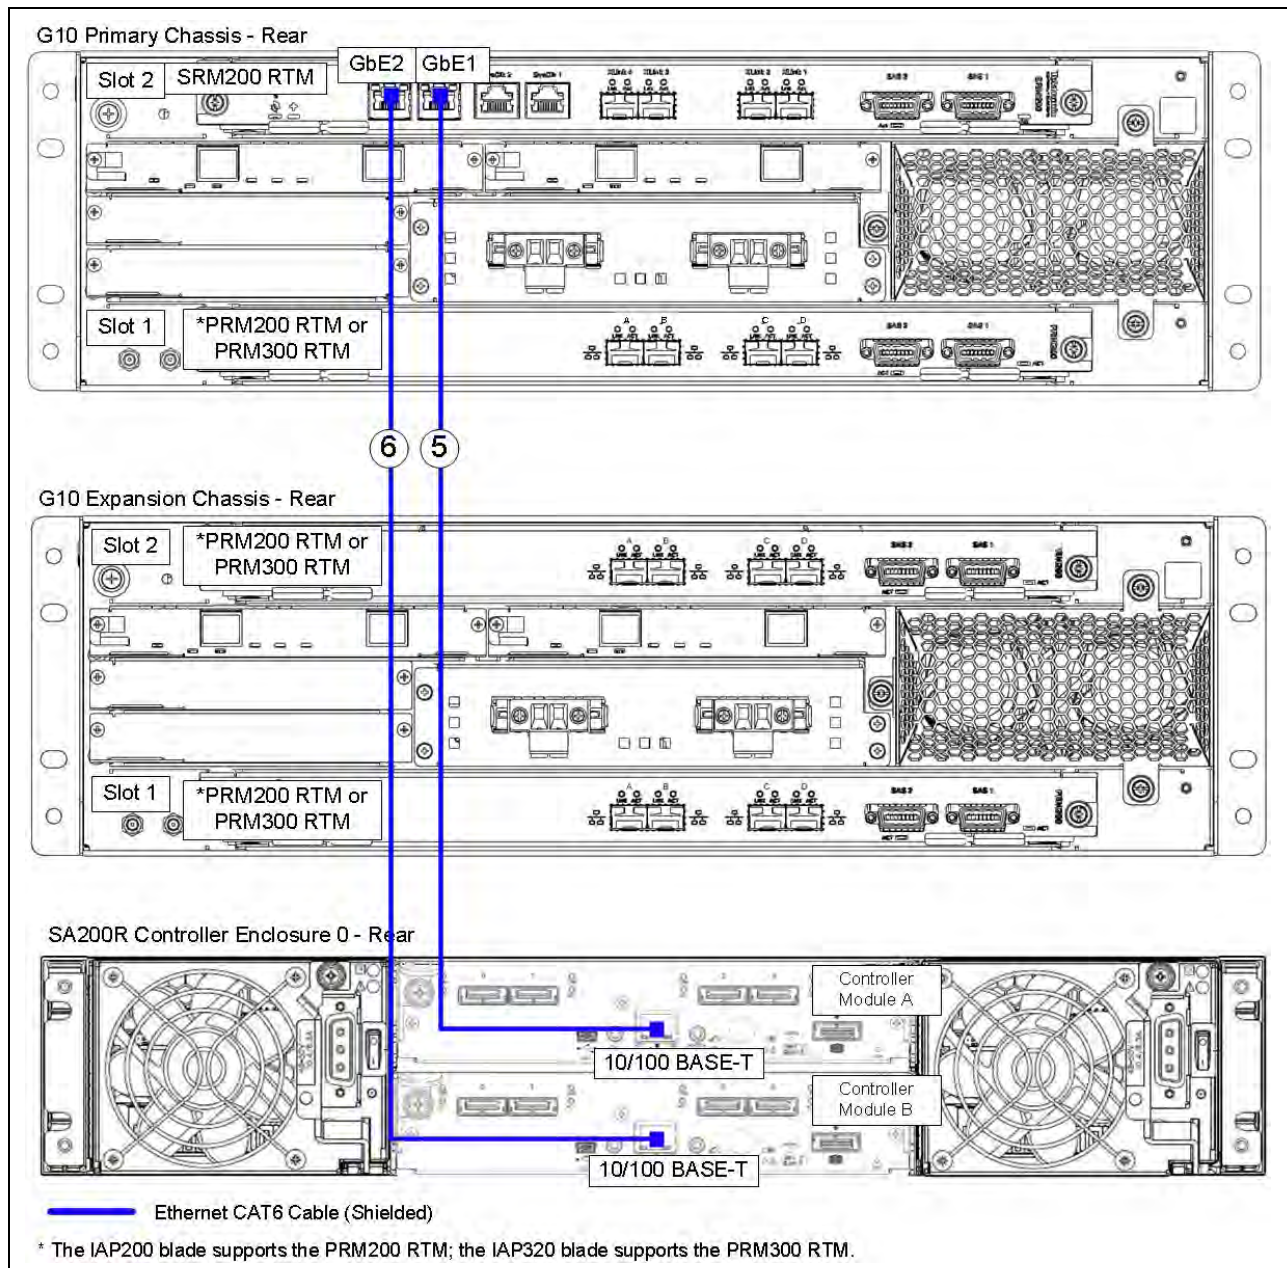

Figure 3.4 - Ethernet Connections - G10 to SA200R Controller Enclosure
5. Connect Ethernet to SA200R controller as shown in Figure 3.4 and Table 3.4.